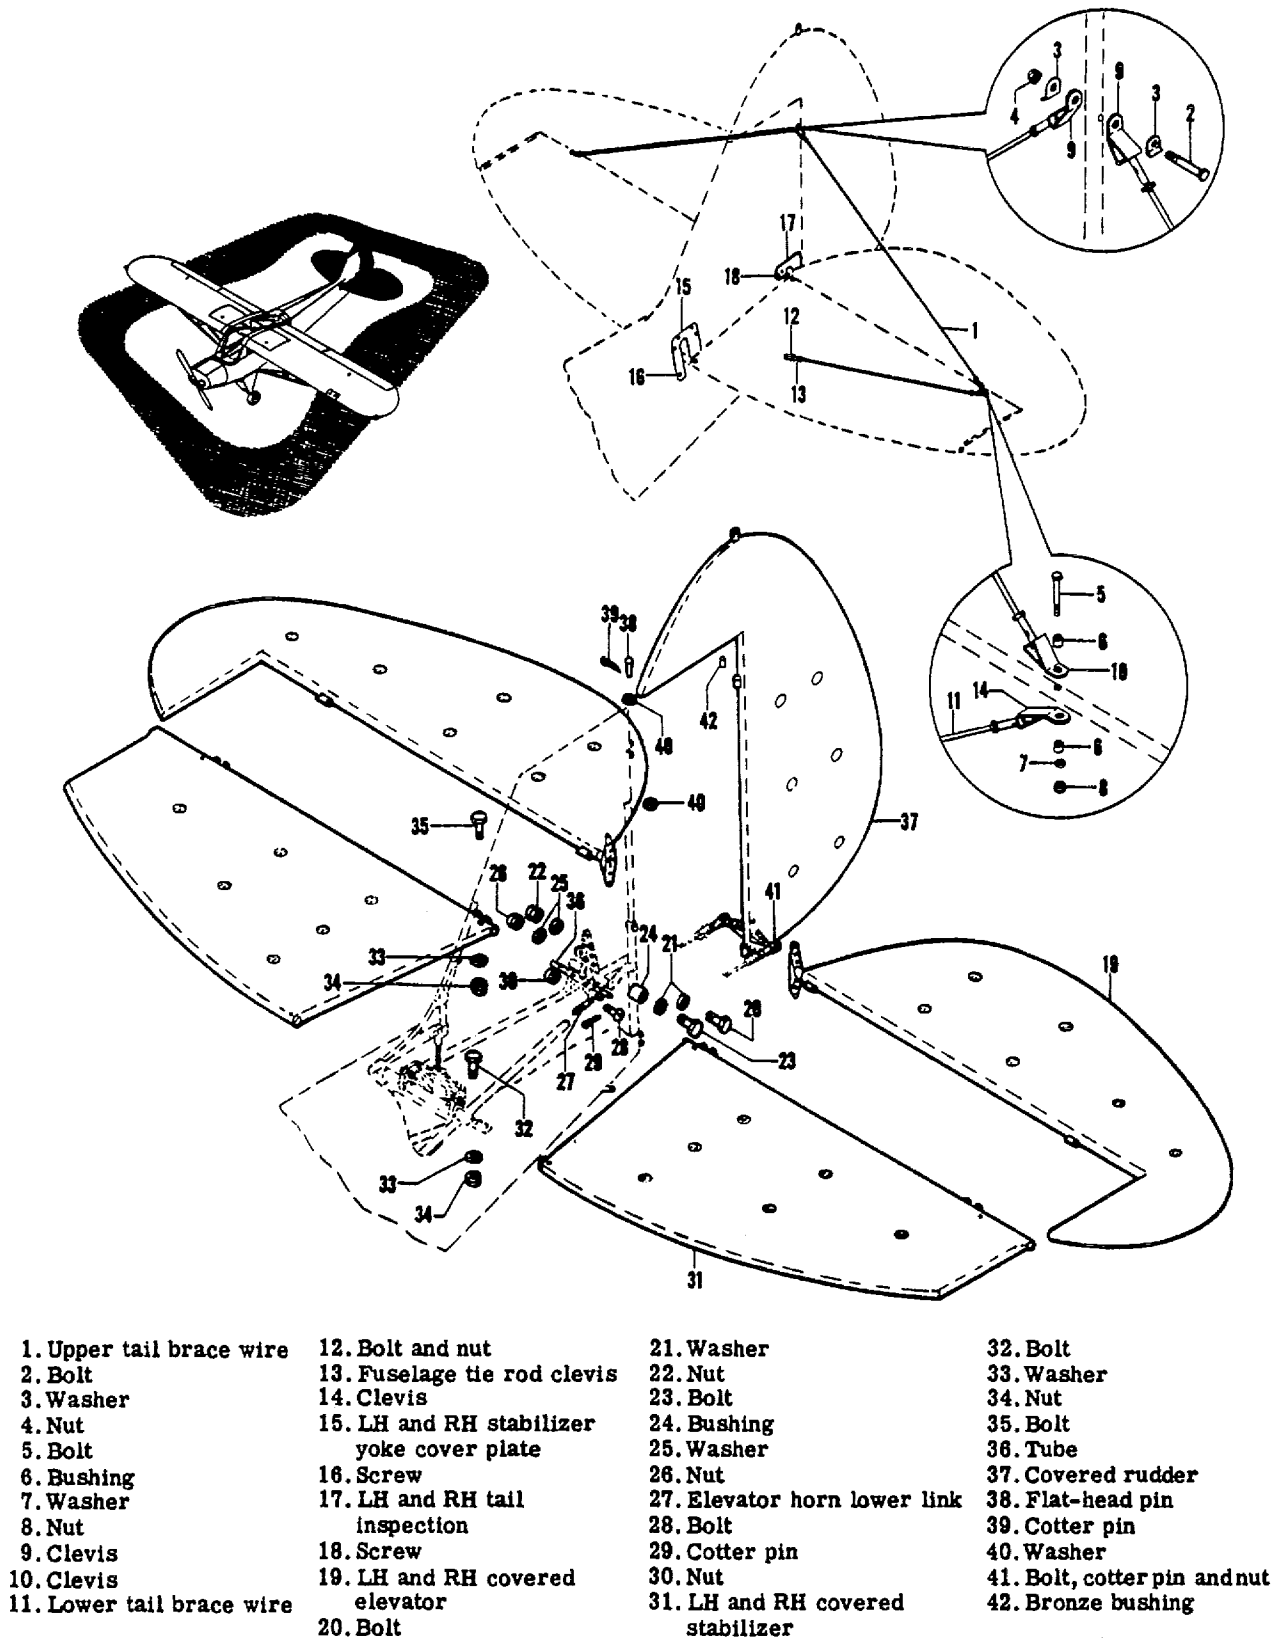
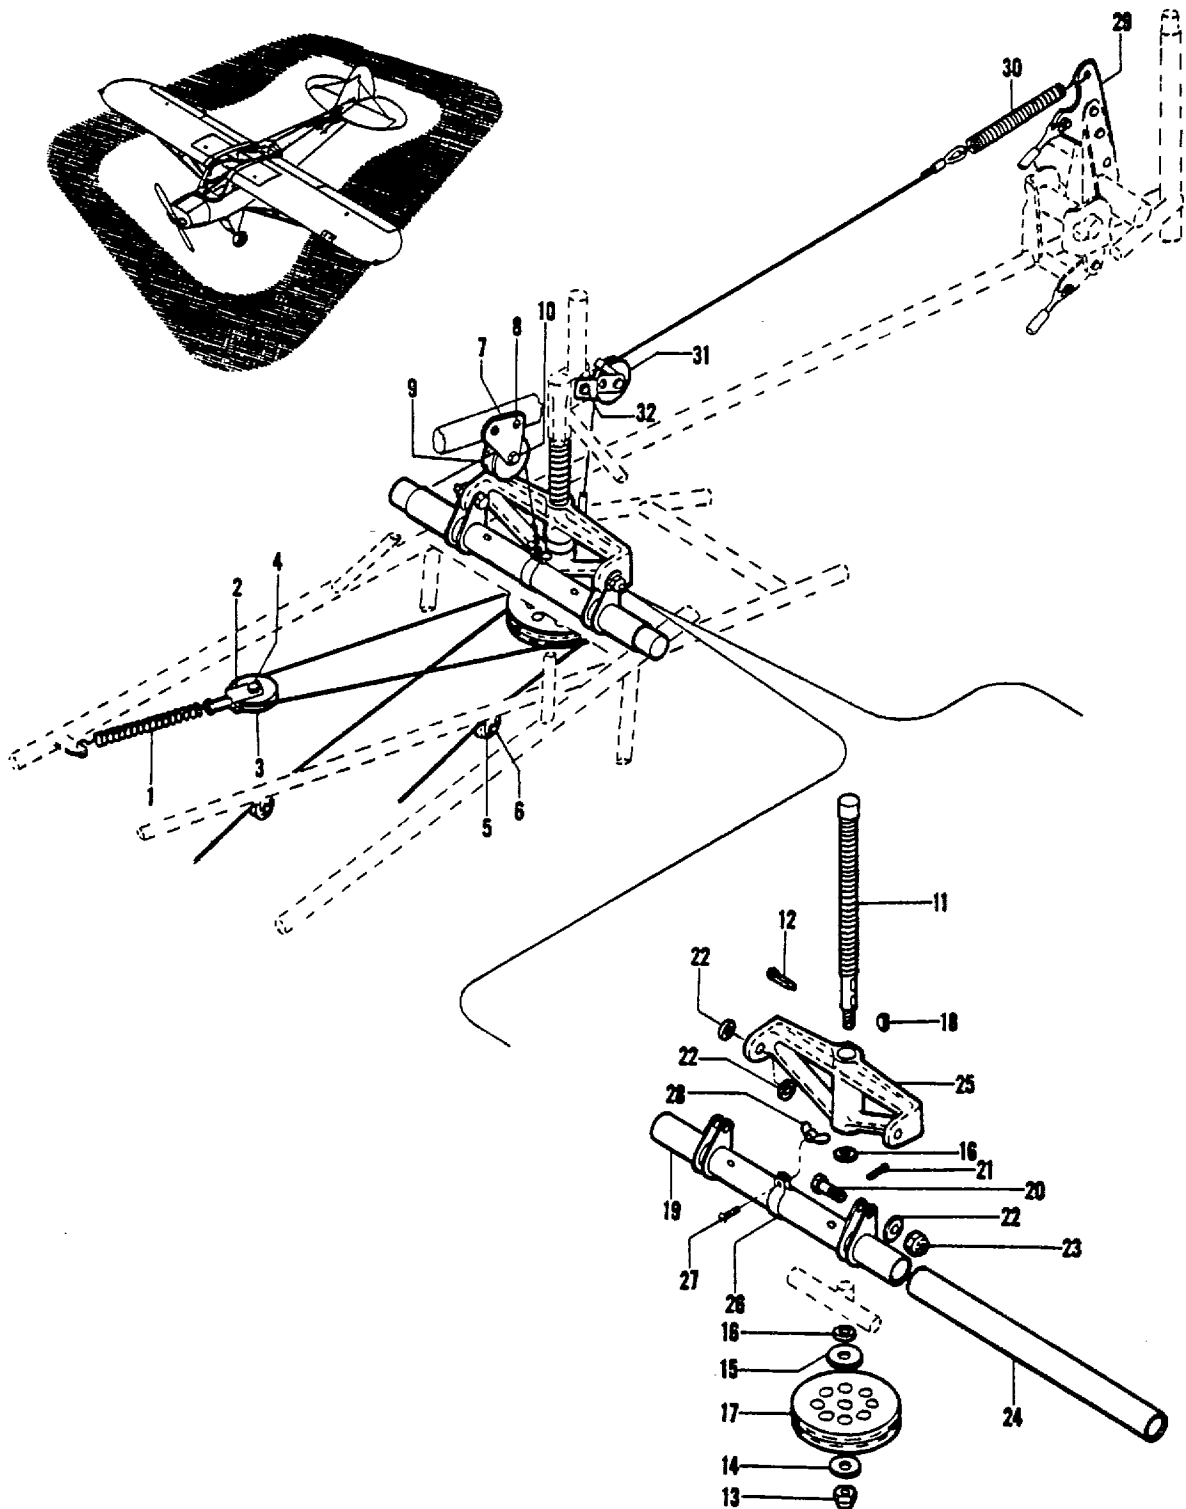

Figure 2-15. Tail Surface Installation
Figure 2-16. Stabilizer Adjustment Yoke and Bungee Installation
semblies (1 and 11, figure 2-15) for damage such as deep scratches or cuts. Replace damaged wire assemblies.
f. Inspect the fin for sturdiness. Check that the attaching bolts are properly safetywired (figure 2-15).
2-48. INSTALLATION OF STABILIZER ADJUSTMENT YOKE AND BUNGEE INSTALLATION. (See figures 2-15 and 2-16.)
a. Position the stabilizer yoke (25, figure 2-16) and insert stabilizer adjustment screw (11) into it through hole A in the fin leading edge fairing (shown in figure 2-16). Thread stabilizer adjustment screw (11) through washer (16). Position the control cable on pulley (17)
according to figure 2-16 and assemble washers (15 and 16), stabilizer screw key (18), pulley (17), washer (14), and nut (13) on stabilizer adjustment screw (11). Lock the assembly with cotter pin (12).
b. Attach link (19) to the stabilizer yoke (25). Lock the assembly with cotter pin (21). Assemble indicator wire (33) to link (19).
c. Lubricate stabilizer adjustment screw (11) with a thin coat of grease, Specification No. AN-G-6, and apply a few drops of oil, Specification No. AN-O-6 to the oil holes in the link (19).
d. Reassemble the elevator horn cable (34) to the stabilizer yoke assembly (25). Reassemble pulley (31) to its housing after positioning the cable (34). Reassemble bungee spring (1) and pulley (3) to the stabilizer adjustment yoke (25).
e. Reassemble LH and RH stabilizer yoke cover plates (15, figure 2-15) to the fuselage.
**2-49. INSTALLATION OF STABILIZER.** (See figures 2-15 and 2-16.)
a. Position and assemble the LH and RH covered stabilizer (31, figure 2-15) to the stabilizer yoke (25, figure 2-16) and onto the rear stabilizer-to-fuselage link tube (36, figure 2-15). Secure with bolts (32 and 35, figure 2-15) and nuts (34). See Table III for proper torque values on bolts.
b. Reassemble the upper tail brace wire (1, figure 2-15) and lower tail brace wire (11).
**2-50. INSTALLATION OF ELEVATOR.** (See figure 2-15.)
a. Carefully assemble the LH and RH covered elevator (19, figure 2-15) and fasten the elevator horn cable (34, figure 2-16) and elevator horn spring (30) to the elevator horn upper link (29).
b. Connect bolts (20 and 23, figure 2-15). See Table III for proper torque value on bolts. Make sure that the connections pivot freely.
c. Reassemble LH and RH tail inspection panel (17, figure 2-15) to the fuselage.
**2-51. INSTALLATION OF RUDDER.** (See figure 2-15.)
a. Position the covered rudder (37, figure 2-15) to the fin and fasten with flat-head pin, cotter pin, and washer (38, 39, and 40 respectively), and with bolt, cotter pin, and nut (41).
Legend for Figure 2-16.